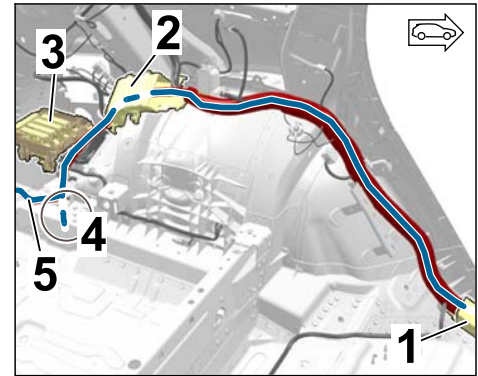

Figure 18
3.2.3 Wheel housing area. left (⇒ *Figure 18*)